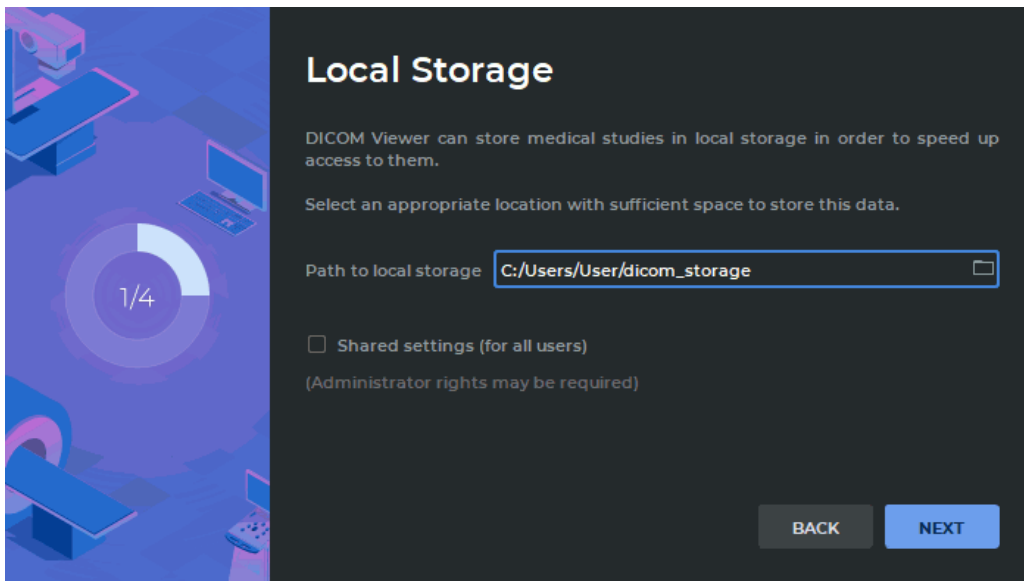

Figure 18: Path to the Local Storage
1. On the page **Local Storage** (Fig. 18) change the path to the Local Storage DICOM data. We recommend leaving the default value.